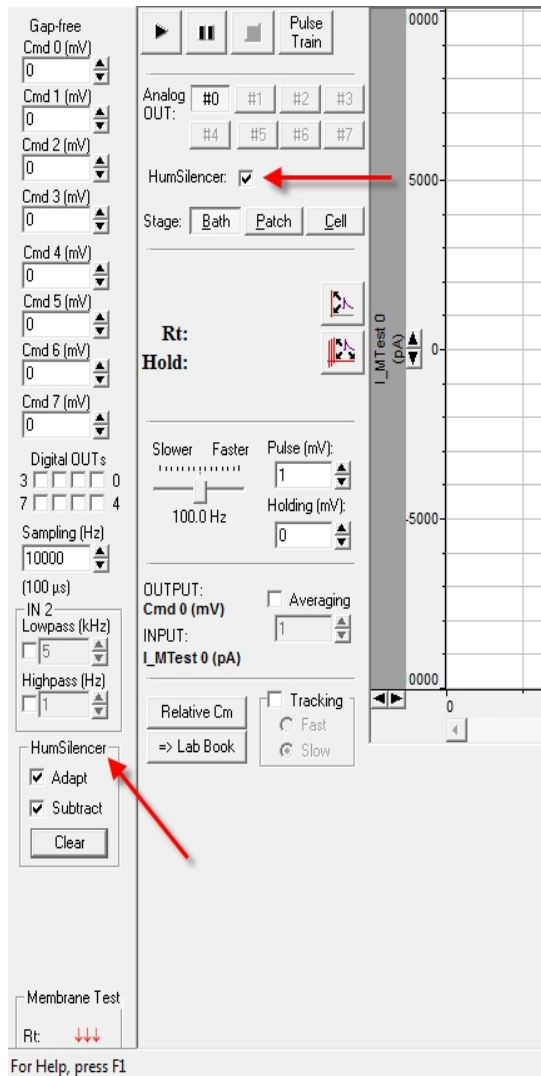

Figure 4-8: HumSilencer system controls in the Real Time Controls panel and Membrane Test dialog
1. In the **Membrane Test** dialog, select the **HumSilencer** check box to turn on the **HumSilencer Real Time Controls** (Figure 4-8).